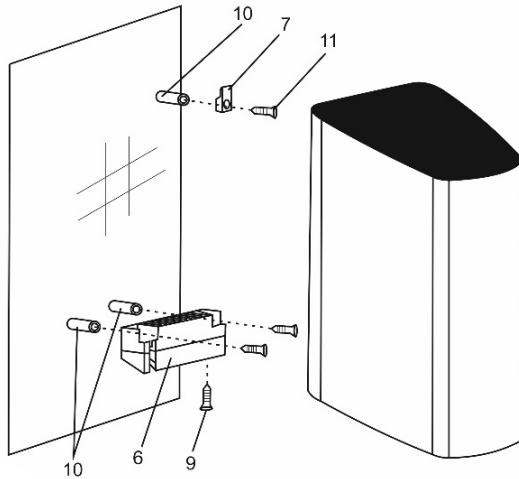

Fig. 4
- (Fig. 4) Insert the plugs (10) into the hole and fix the hook (7) and the support block (6) to the wall